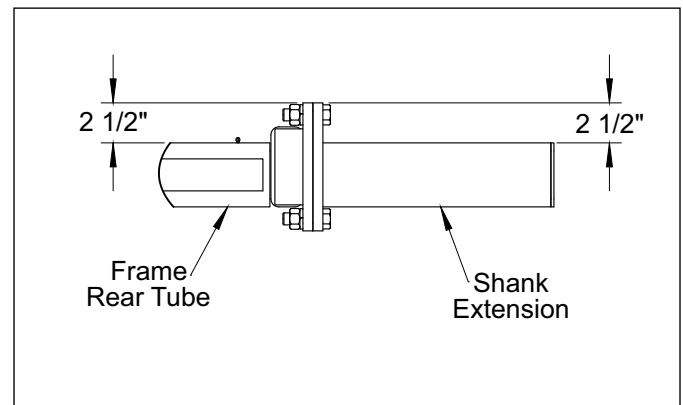

Figure 2-1: Shank Extension
3. 9 and 13 Shank Machines, attach on each side of the Frame, a Coulter Extension on the Front Frame Plates and a Shank Extension on the Rear Frame Plates with 3/4-10 x 2-1/2 Bolts, Lockwashers and Hex Nuts. Make sure that the Shank Extension is the same height as the rear frame tube. **See Figure 2-1.**